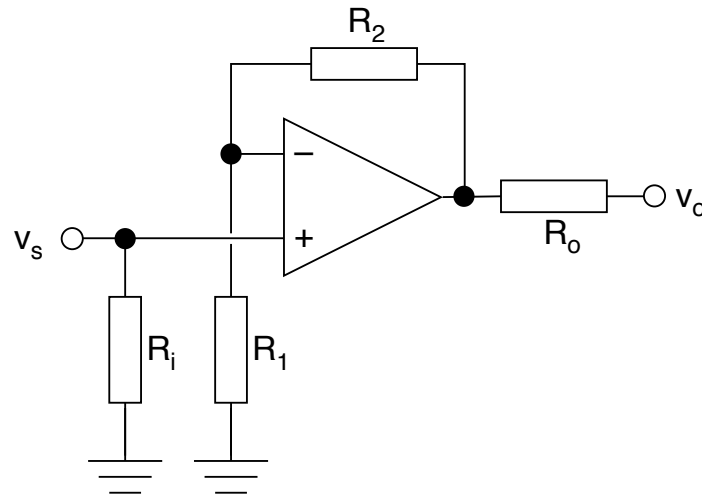

Figure 4.2.1
For a non-inverting amplifier, such as that shown in Figure 4.2.1, what would the gain be if $R_1 = 220\ \Omega$ and $R_2 = 470\ \Omega$?
To introduce the op amp lab, we will simulate and measure the frequency response of a simple non-inverting amplifier, as shown in Figure 4.2.1.
- Set up a SPICE simulation of the circuit shown in Figure 4.2.1. Use $R_i = 10\text{ k}\Omega$, $R_1 = 2\text{ k}\Omega$, $R_2 = 18\text{ k}\Omega$ and $R_o = 10\text{ k}\Omega$. Use the TL074 op amp model¹ via the `.inc` directive and don't forget the $\pm 15\text{ V}$ power supply.